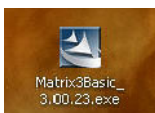

FIG. 3
3. Double click the Matrix3Basic.exe icon (FIG. 3).